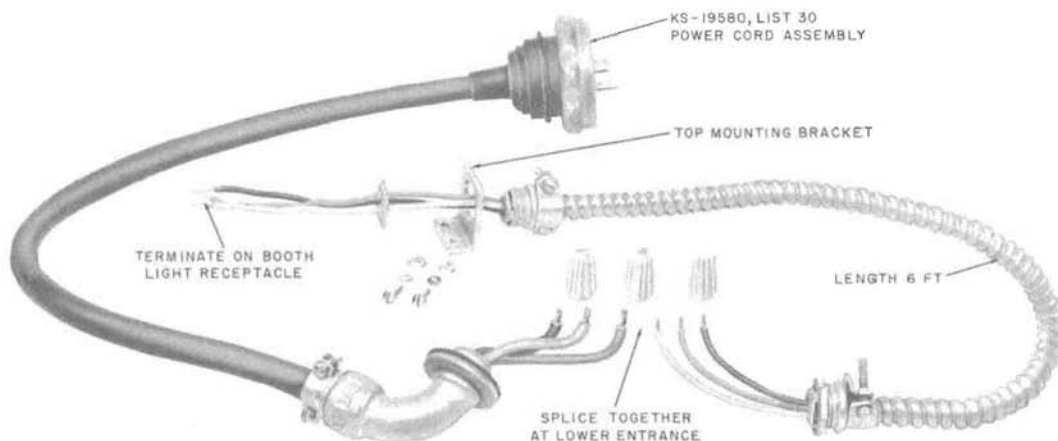

Fig. 3—KS-19580, List 31 Power Cord Group
- KS-19580, List 31 power cord group (Fig. 3)—Used to bring power into the bottom of an indoor or outdoor booth.